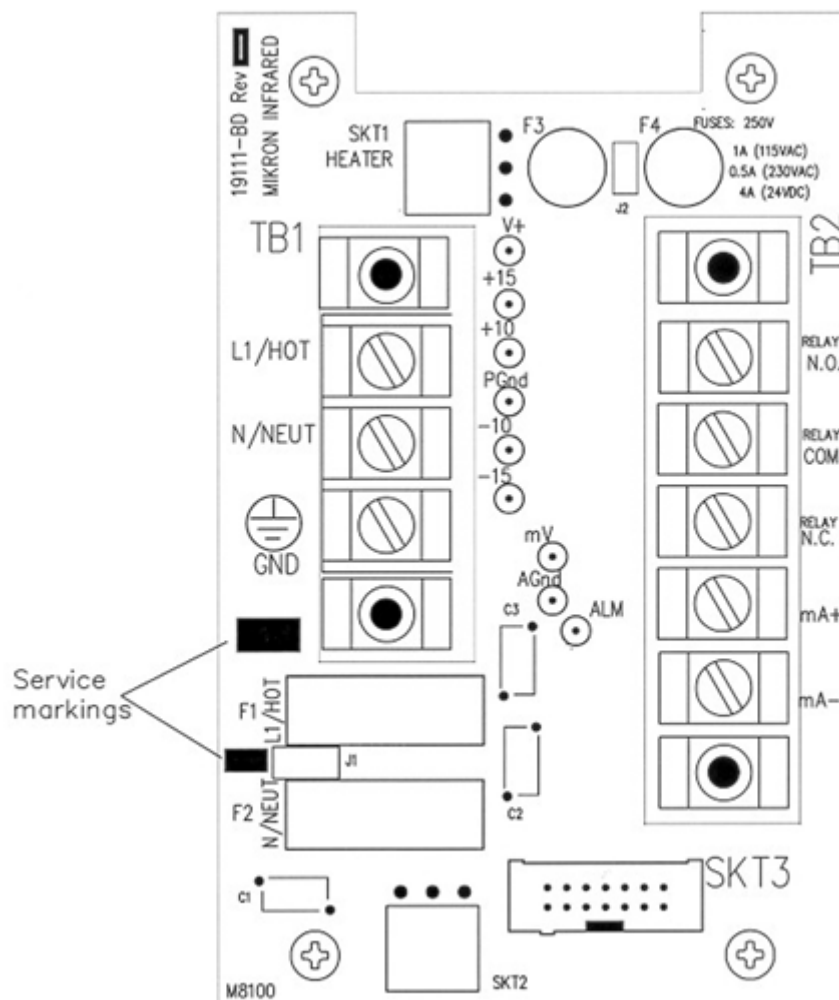

Figure 6: Terminal Output PCB Service Markings
The objective lens locking and focusing screw and the eyepiece are both located on the top of the infrared electro-optical package inside the explosion-proof enclosure (see Figure 6).
To focus, first rotate the eyepiece lens (Figure 6, item 1) in or out until the reticle is clear and sharp. Next, slowly loosen the lens locking and focusing screw (see Figure 6, item 2). Move the objective lens (see Figure 6, item 3) in or out with the focusing screw until the target is clear and sharp. Tighten the screw; the focus is now set.
(1) Eyepiece Lens with Reticle
(2) Focus Adjust and Lens Locking Screw
(3) Objective Lens